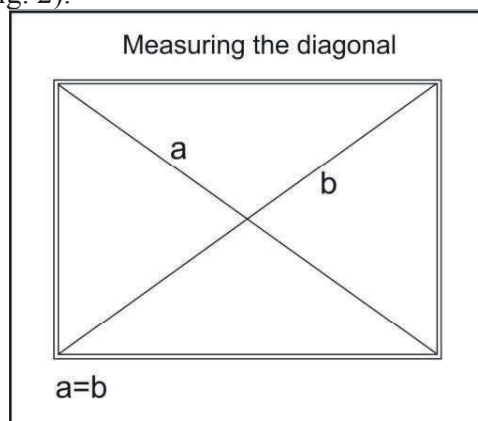

Fig. 2
2. Measure the diagonal of the foundation. Lengths of diagonals must be equal. If diagonals are equal, tighten the bolts of the foundation fully (Fig. 2).